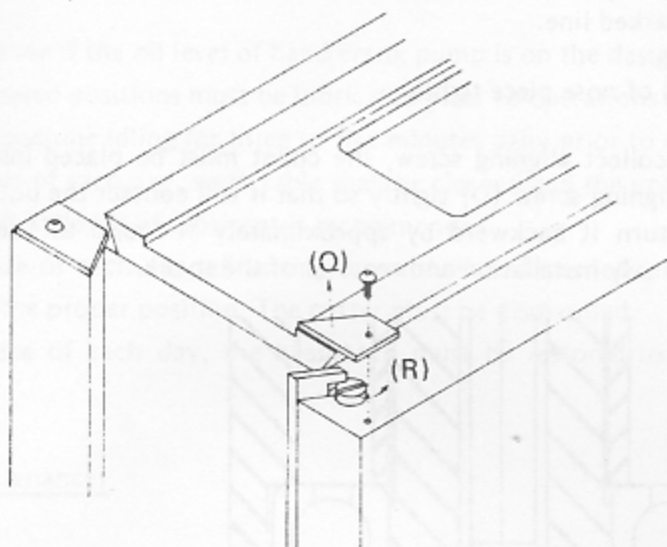

Figure 32
C. Adjustment of Knee Gib (Vide Figure 32):